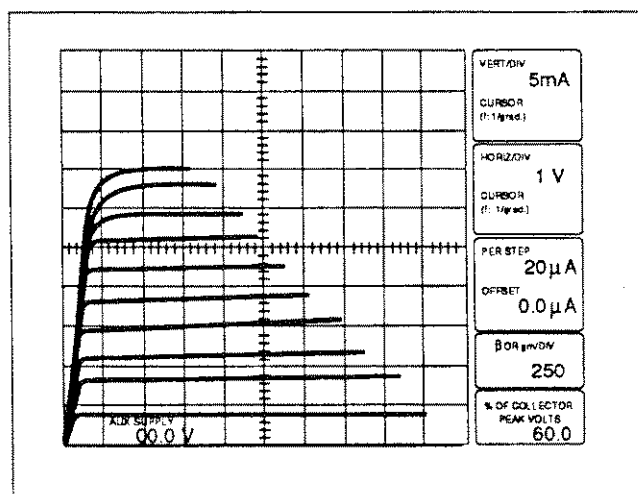

Figure 3-7. IC vs. VCE for 10 steps of base current.
10. Be sure the MAX PEAK POWER WATTS is set within the power dissipation rating of the transistor under test. Set the NUMBER OF STEPS to 10. Note the display of collector current vs collector-emitter voltage for ten different values of base current (see Figure 3-7).